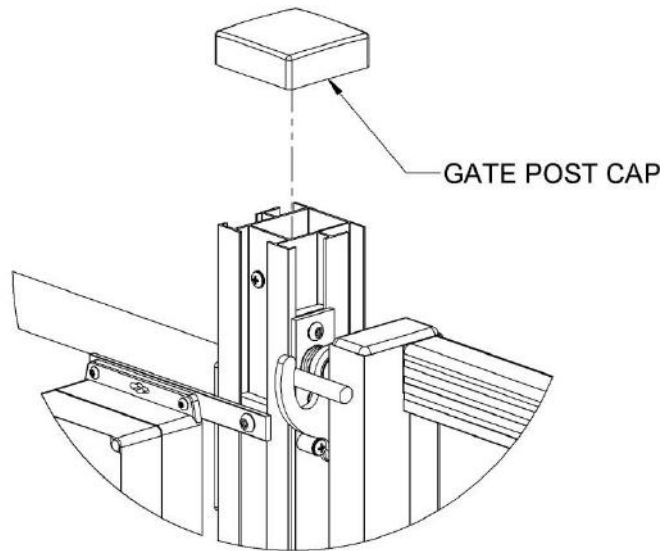

FIG. 9.10
- 9.5.3.1. Remove gate post cap from latch post and set aside for later use (FIG. 9.10).
- 9.5.3.5. Place gate post cap back on latch post (FIG. 9.10).